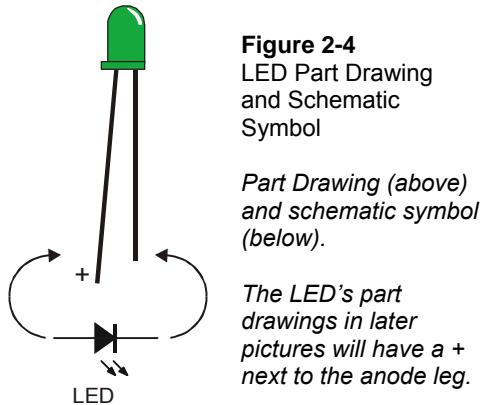

Figure 2-4
Figure 2-4 shows an LED's schematic symbol and part drawing. An LED has two terminals. One is called the anode, and the other is called the cathode. In this activity, you will have to build the LED into a circuit, paying attention to make sure the leads connected to the anode and cathode are connected to the circuit properly. On the part drawing, the anode lead is labeled with the plus-sign (+). On the schematic symbol, the anode is the wide part of the triangle. In the part drawing, the cathode lead is the unlabeled pin, and on the schematic symbol, the cathode is the line across the point of the triangle.
Identifying the parts: In addition to the part drawings in Figure 2-2 and Figure 2-4, you can use the photo on the last page of the book to help identify the parts in the kit needed for this and all other activities. For more information on the parts in this photo, see Appendix B: Equipment and Parts Lists.
- ✓ Use Figure 2-4 to decide which lead is connected to the LED's cathode. Look for the shorter lead and the flat spot on the plastic part of the LED.